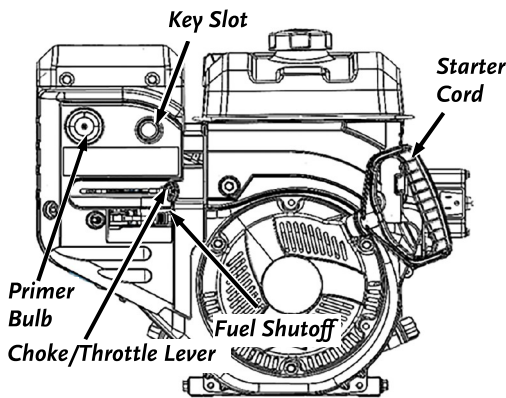

Figure 24
2. Insert Key into Key Slot (**Figure 24**).
2. Insert the Key into the Key Slot (**Figure 24**).
2. Pull the Key out of the Key Slot to stop the Engine (**Figure 24**).